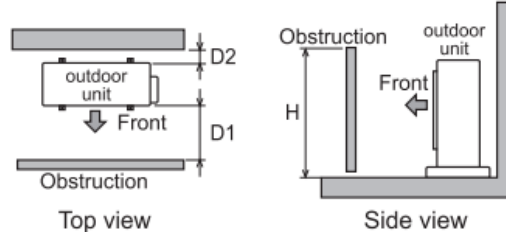

Fig. 2-4 Top view
■ When there is an obstruction at the front (discharge side)(Fig. 2-4)